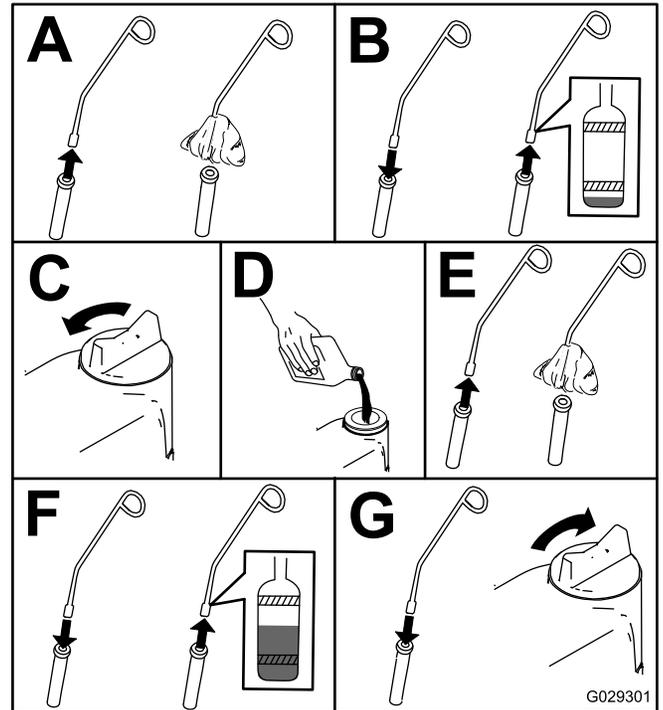

Figure 44
- Check the oil and add additional oil as needed (Figure 44).